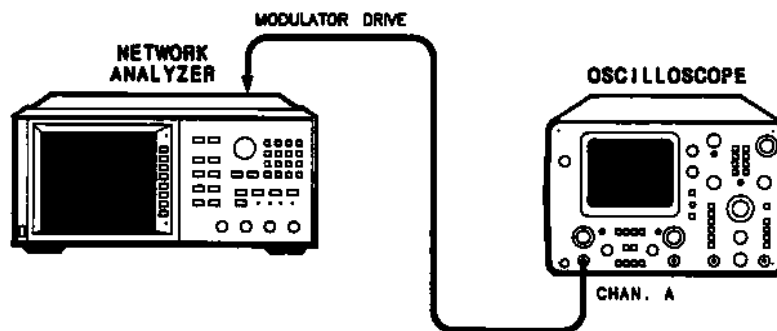

Figure 4-1. Voltage Amplitude Test Setup
1. Connect the equipment as shown in Figure 4-1. Allow 30 minutes warm-up.